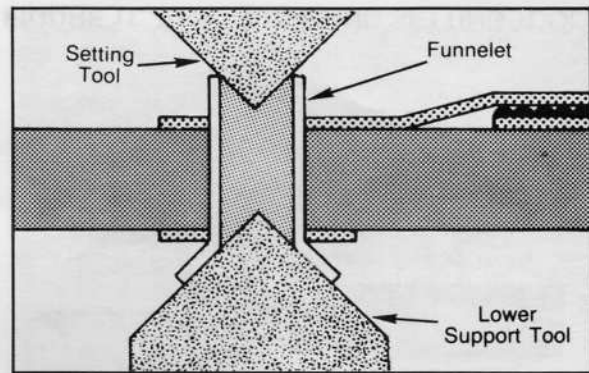

FIGURE 12. POSITIONING OF SETTING TOOL
STEP 10—Position the Setting Tool Tip into the Funnelet/Eyelet barrel (see Figure 12).